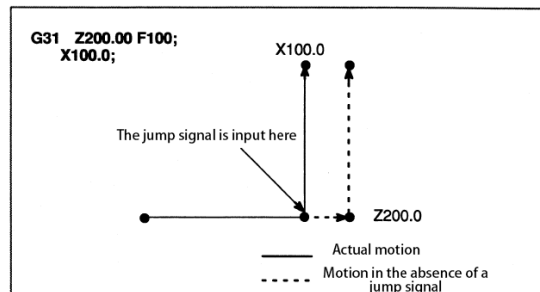

Figure 3-14
- 9) The next program segment of G31 is the programming of absolute coordinates of 1 axis, see Figure 3-14